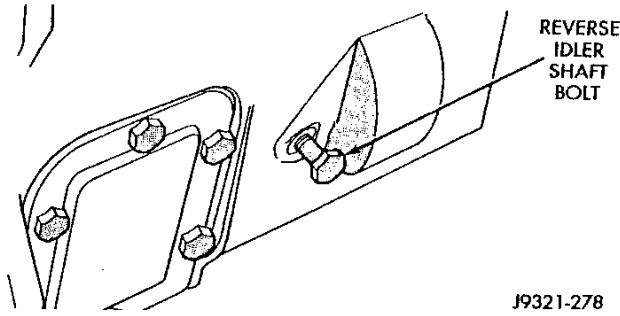

Fig. 15 Reverse Idler Shaft Bolt Removal
(2) Remove bolt that aligns and secures idler shaft in case (Fig. 15). Keep bolt with idler gear components. Do not intermix it with other fasteners.